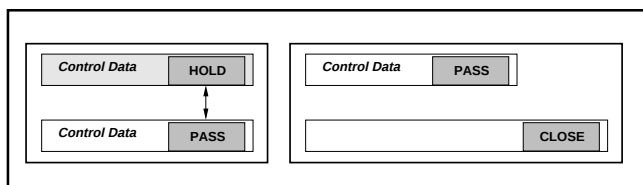

FIGURE 7. Control Data Status.
To set the mode registers, double-click on Attenuate (A), Function (F), or DataForm (D) from the main menu. Each register will appear and have a “HOLD” or “PASS” selection for Control Data (see Figure 7). In “HOLD”, only the set data on the screen changes and the control data in the actual PCM3000 prior to “HOLD” are input. If “PASS” is selected, you can simultaneously change set data on the screen and also control data for the PCM3000. Select “CLOSE” to exit this menu and return to the main menu.